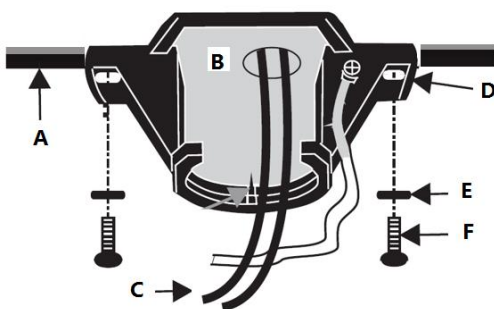

Fig. 7
**Pass the power supply wires (C) from the ceiling outlet box (B) through the center of the ceiling mounting bracket (D). Install the ceiling mounting bracket (D) on the outlet box (B) with the mounting screws (F) provided with the outlet box and washers (E) provided with fan. Fig. 7**